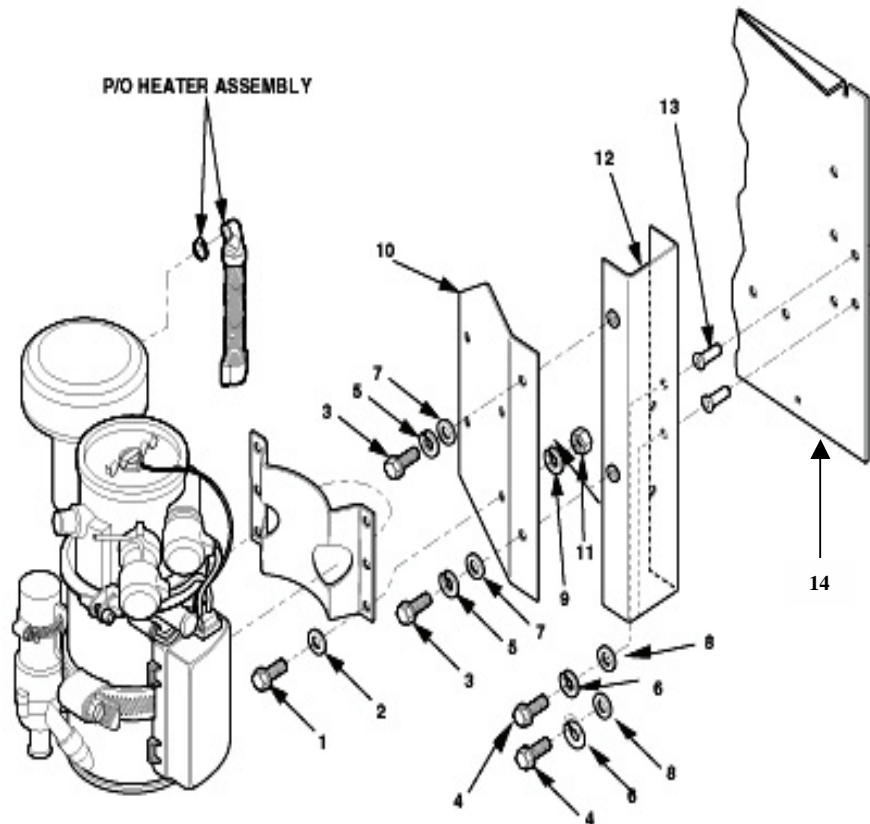

Figure 6-31. Heater Assembly Removal.
- I. Remove heater assembly by removing bolts (1, 3, 4 and 13, Figure 6-31), lock washers (5, 6 and 9), flat washers (8, 2, 7 and 11) and wall mounting bracket (10) from wall mounting brace (12) and from bulkhead (14). Discard lock washers (5, 6 and 9).